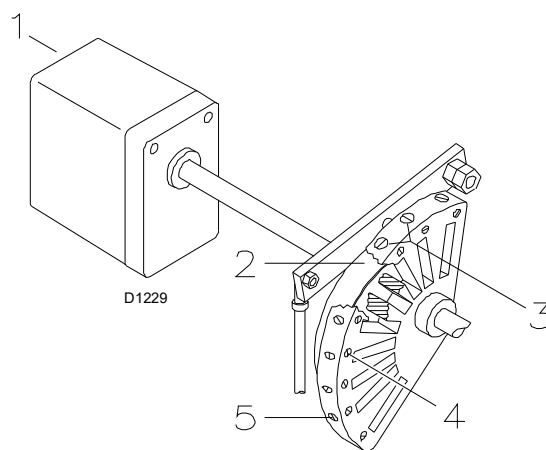
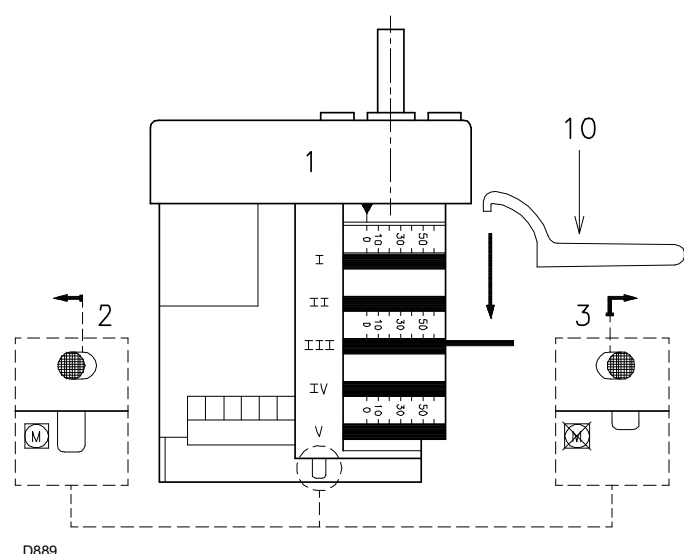

Fig. 28
Fig. 29
Progressively adjust the end profile of cam 2)(Fig. 28) by turning the screws 5).
Progressively adjust the initial profile of cam 2)(Fig. 28) by turning the screws 3).
Switch the burner off with switch 1)(Fig. 28), OFF position. Release cam 2)(Fig. 28) from the servomotor by pressing and shifting button 3)(Fig. 29 on page 26) to the right, and check several times that by rotating cam 2) forwards and backwards by hand, the movement is soft and smooth, without jamming.
Join the cam 2) to the servomotor again by shifting the button 2)(Fig. 29 on page 26) to the left.
Once optimum adjustment has been reached, fix it with the screws 4)(Fig. 28 on page 25).
For any necessary adjustment of cam III, especially for small movements, use the specific key 10)(Fig. 29) held in place beneath the servomotor with the aid of a magnet.
- 5 s :** Servomotor start-up: turn to the right by 130°, i.e. until the contact intervenes on cam I (Fig. 29 on page 26). The air damper is positioned to MAX output.
- 69 s :** The servomotor rotates to the left until the contact on cam 3) activates (Fig. 29 on page 26).
- The burner locks out when the heat request is less than the heat supplied by the burner at MIN output, (section F-G). The TL remote control opens, the servomotor returns to angle 0° limited by the contact of cam II (Fig. 29 on page 26). The air damper closes completely to reduce heat losses to a minimum.
Release cam 2)(Fig. 28 page 25) from the servomotor, by pressing and shifting button 3)(Fig. 29 on page 26) to the right. Manually rotate it backwards and forwards to make sure it moves smoothly.
Now engage the cam again by shifting the button 2)(Fig. 29 on page 26) to the left.